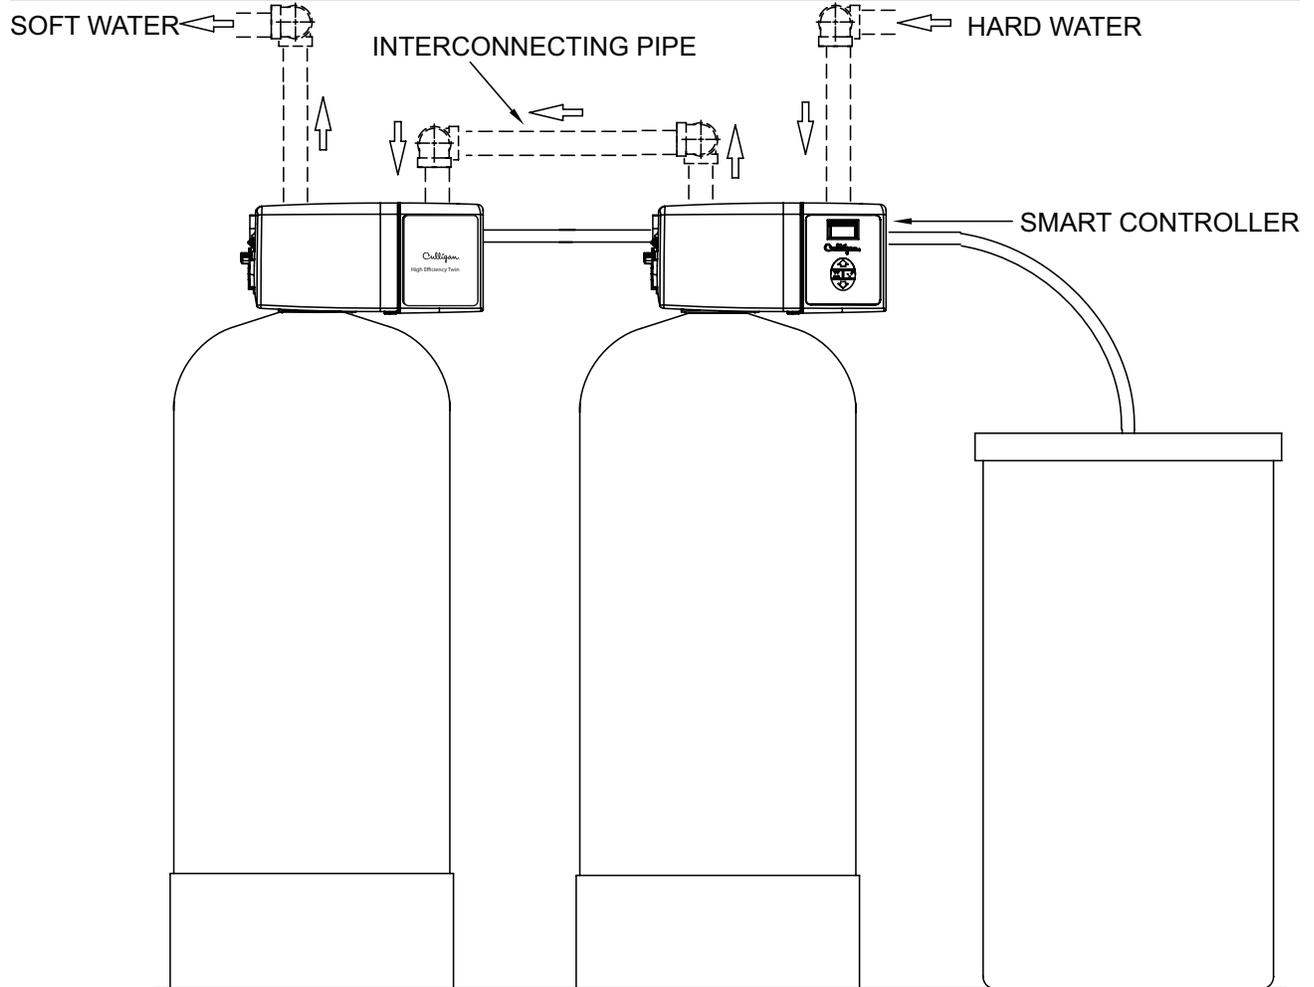

Figure 4.HE 1.5 Twin tank piping.
1. Depending on the type of softener system and the installation parameters, required pipe lengths and piping accessories will vary. See Figure 4 to aid the installation. If the layout drawings are not sufficient for your application, consult the Culligan dealer for specific installation guidelines.
CAUTION! The media tank must never be subjected to an internal vacuum or it might be damaged. Drain line suction can be prevented by piping the system in similar fashion to that shown in Figure 4. A vacuum breaker may be installed on either the inlet or the outlet side of the vessel as close to the vessel as possible, preferably between the vessel and any isolating valves. If an installation has a booster pump downstream of the vessel, install the vacuum breaker on the outlet side. Do not install a vacuum breaker on the drain line. Use a vacuum breaker, such as Culligan 00401584 or 01003701. Multi-tank systems will require at least one vacuum breaker per tank.